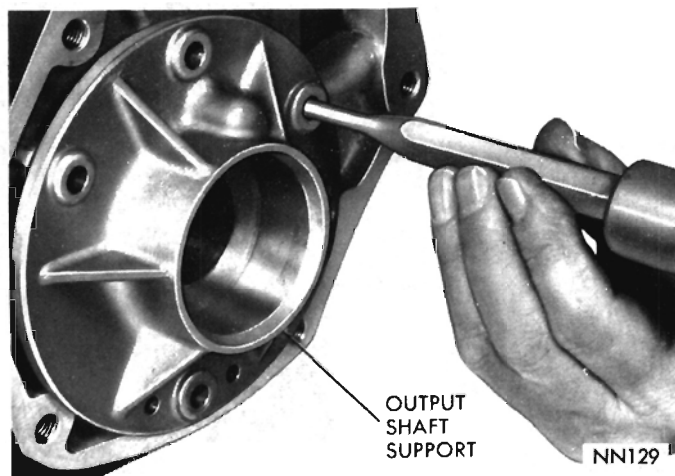

Fig. 90—Removing Overrunning Clutch Cam (A-727)
(1) Remove set screw from the case below clutch cam.
(2) Remove four bolts securing output shaft support to rear of transmission case. Insert a punch through bolt holes and drive cam from the case (Fig. 90). Alternate punch from one bolt hole to another so cam will be driven evenly from the case.